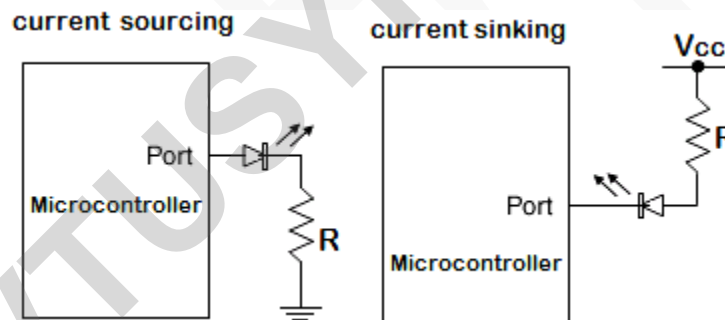

Fig.3 LED interfacing to the port pin of microcontroller
- **Method:2-** (current sinking) Cathode of LED is connected to port pin. Anode is connected to external supply through resistor. LED turns *on* when the port pin is at logic 0. Here port pin *sinks* current, such that the brightness of LED can be increased to the required level. See fig.3.